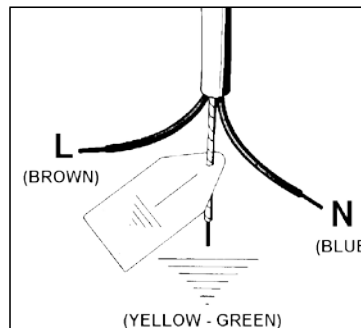

Fig6.
- If the power cord is supplied without a plug, apply a standard plug that is suitable for the load indicated on the label. Connect the wires according to the diagram shown in FIG.6 and check that: